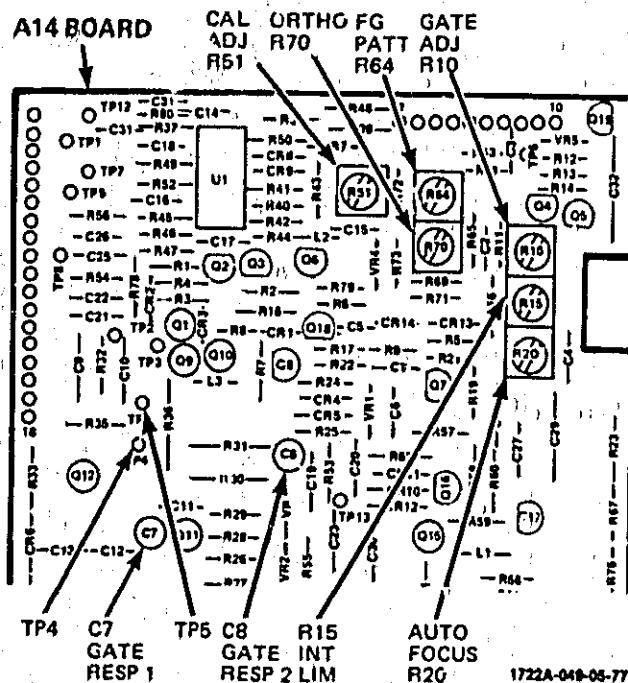

Figure 5-12. Gate Assembly Adjustments
### 5-54. GATE-RESPONSE, AMPLITUDE, AND AUTO-FOCUS ADJUSTMENTS. (See figure 5-12.)
**5-57. ORTHOGONALITY AND PATTERN ADJUSTMENTS.** (See schematic 16 and figure 5-12.)
**5-59. FLOOD GUN PATTERN AND INTENSITY RATIO ADJUSTMENTS.** (See schematics 15, 16, and figure 5-12.) Adjust flood gun pattern and intensity ratio as follows: